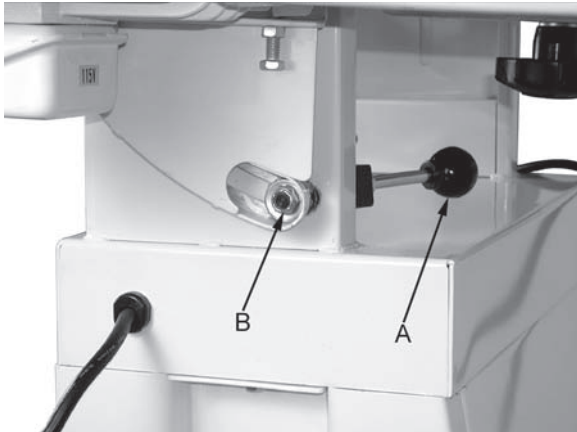

Fig. 8
3. Tension eccentric block by tightening the nut (B, Fig. 8) with a 14mm wrench. Turn the nut in by 1/4 turn increments and test locking handle for proper tension.